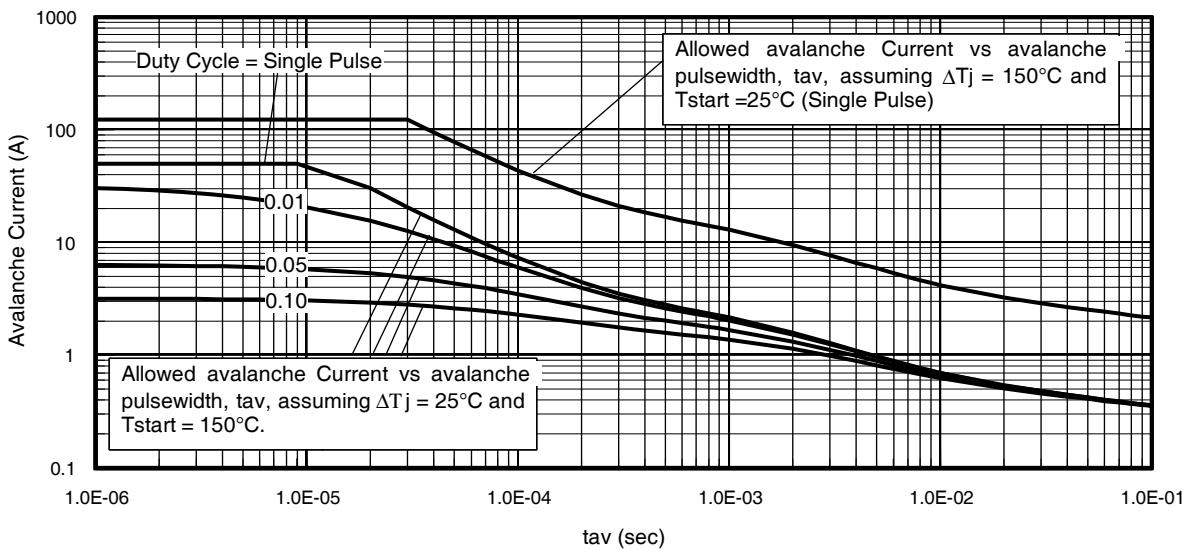

Fig 15. Typical Avalanche Current Vs. Pulsewidth
Notes on Repetitive Avalanche Curves , Figures 15, 16: (For further info, see AN-1005)
7. ΔT = Allowable rise in junction temperature, not to exceed T_{jmax} (assumed as 25°C in Figure 15, 16).